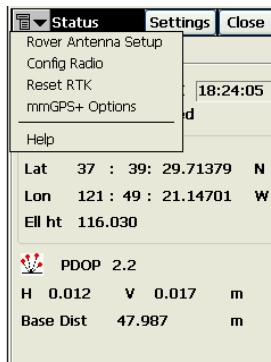

Figure A-22. mmGPS+ Options
1. On the *Status* screen (**SRV ▶ Status**), tap the **menu bitmap** in the upper left corner of the screen and tap **mmGPS+ Options** (Figure A-22).